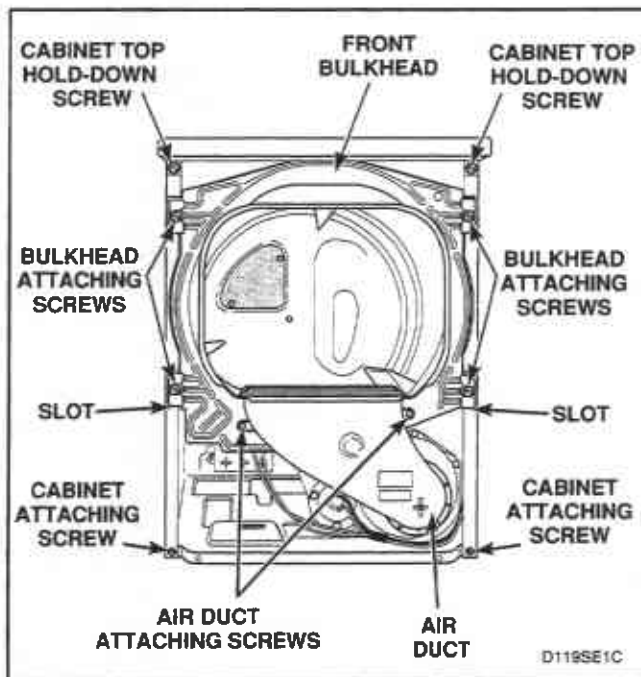

Figure 33
- Remove four screws holding bulkhead to front flange of cabinet and lift complete bulkhead assembly out of slots in cabinet, *Figure 33*.
- f. Remove four screws holding bulkhead to front flange of cabinet. Then, lift complete bulkhead assembly out of slots in cabinet, *Figure 33*.
- Remove four screws holding bulkhead to front flange of cabinet. Then lift complete bulkhead assembly out of slots in cabinet, *Figure 33*.
- Loosen two cabinet top hold-down screws, *Figure 33*.
- Remove four screws holding bulkhead to front flange of cabinet. Then, lift complete bulkhead assembly out of slots in cabinet, *Figure 33*.